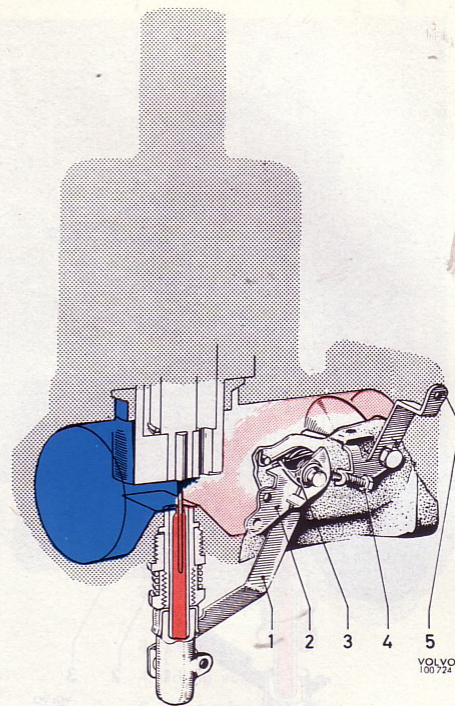

Fig. 15. Carburettor, fast idling
When the choke control is pulled out, the outer end of the lever (3) is pressed downwards and influences the jet so that this is also pressed down. In addition, the fast idling screw is influenced by the cam on the lever (2, Fig. 15) and the throttle flap opens slightly.
When the choke control is pulled out, the throttle flap is also influenced. One end of the lever (2, Fig. 15) is in the form of a cam which presses on the fast idle screw (4) whereby the throttle flap is opened.